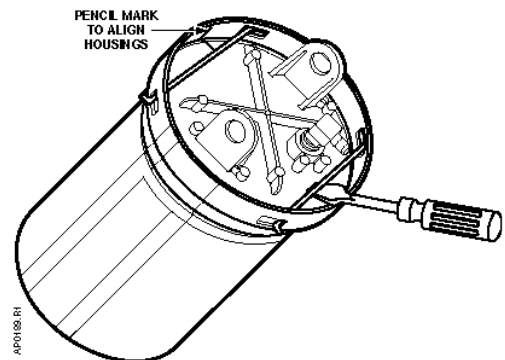

Figure 2.
2. Pry the prongs of the retainer clip loose using the screwdriver blade. See Figure 2. Note the position of the retainer clip before you remove the retainer clip.